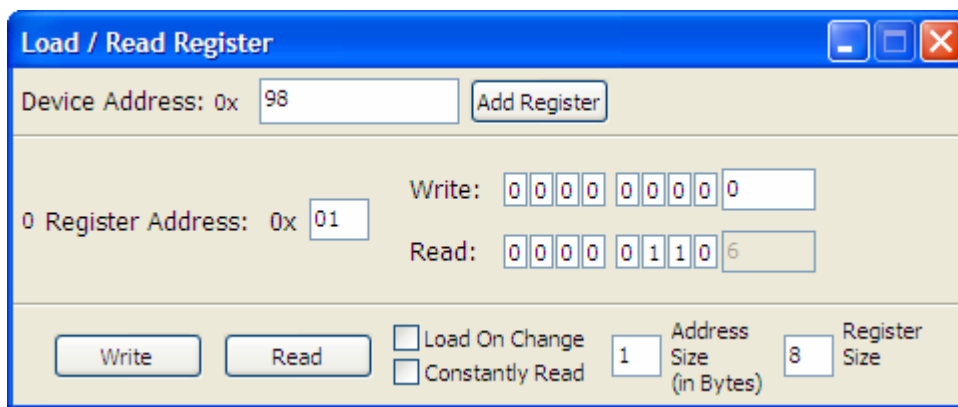

Figure 6 - Register Control Window
2. Enter the Device Address in HEX (see Figure 6)